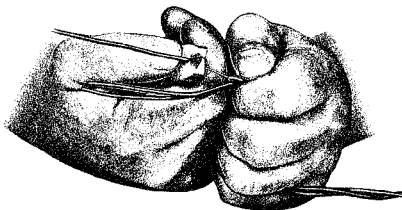

Fig. 6 — Skinning Twisted Wire
(1) Untwist conductors from desired length to be terminated. Hold at this point between thumb and index finger.
(2) Place conductor in groove on jaws of diagonal pliers as illustrated in Fig. 6, squeeze and pull in direction as shown. Repeat for other conductors.